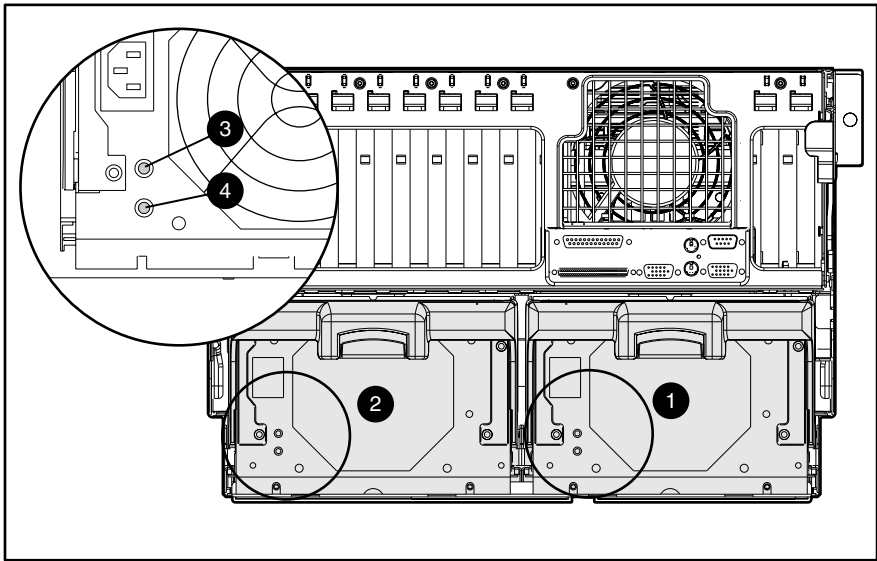

Figure 4-10. Power supply LEDs
Figure 4-10 and Table 4-9 show the location of power supply 1 ❶ and power supply 2 ❷ with a description of both power supply LED indicators.